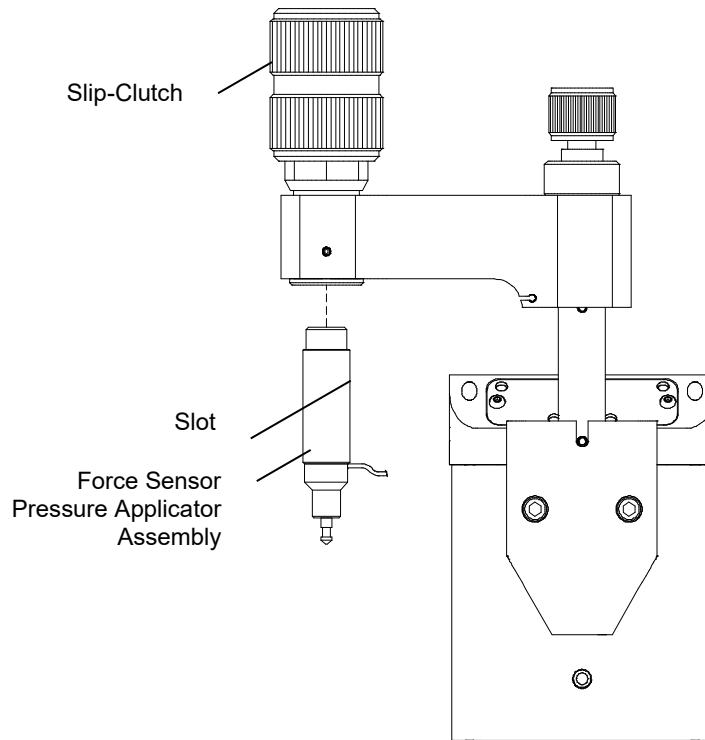

Figure 25 • Installing the Force Sensor Pressure Applicator Assembly
- Orient the force sensor pressure applicator as shown in Figure 25.
- While continuing to hold the pressure applicator assembly, turn the slip-clutch counter-clockwise to thread the pressure applicator assembly into its housing (see Figure 25).